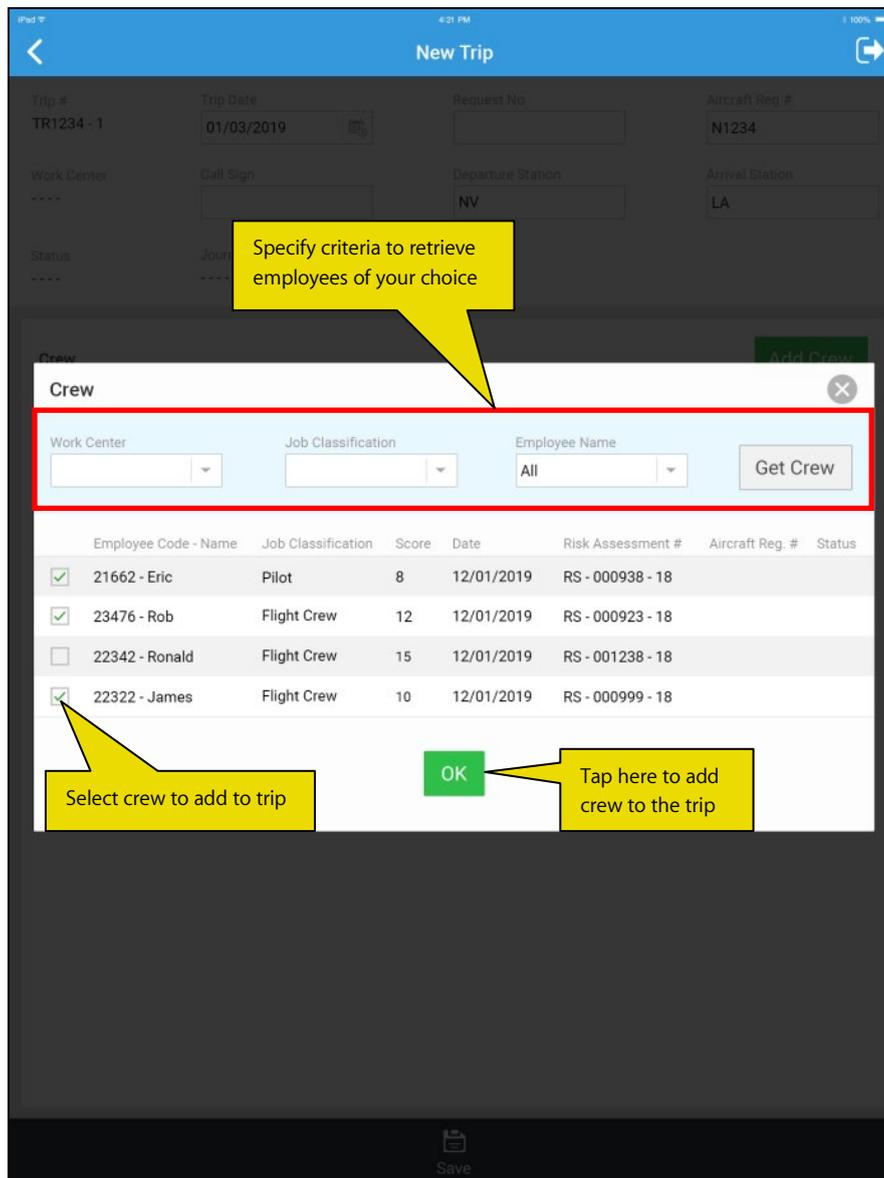

Figure 4.8: The screen for selecting crew for trip
1. The **Crew** window appears on tap of the Add Crew button in the **New Trip** screen. See Figure 4.8.